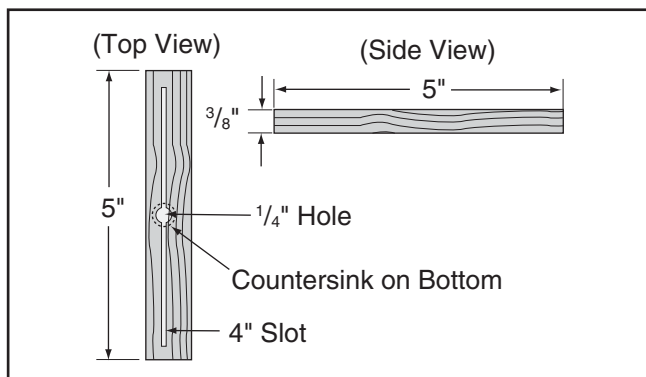

Figure 81. Miter bar pattern.
5. Cut a miter bar that will fit in the table miter slot approximately 5" long, as shown in **Figure 81**.